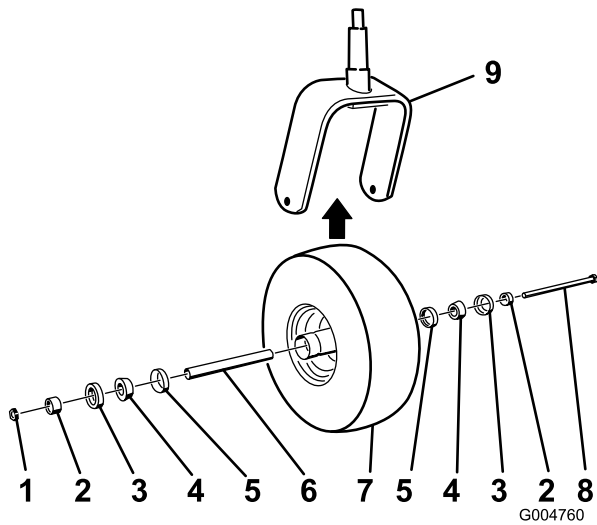

Figure 54
2. Remove the locknut from the bolt holding the caster wheel assembly between the caster fork (Figure 54).
5. Assemble the castor wheel by pushing the cone bearings and seals, packed with grease, into the wheel hub, positioned as shown in Figure 54.